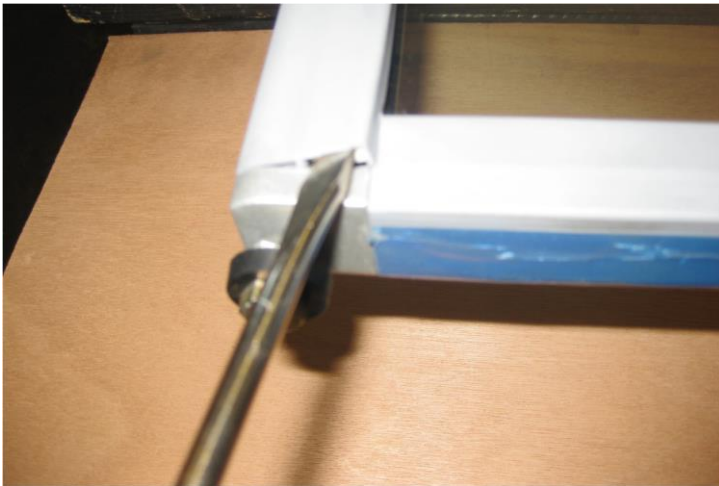

Figure 17
1. Insert the end of a slot head screwdriver in between two plastic cover ends at the edge of cut. Refer to Figure 17 .